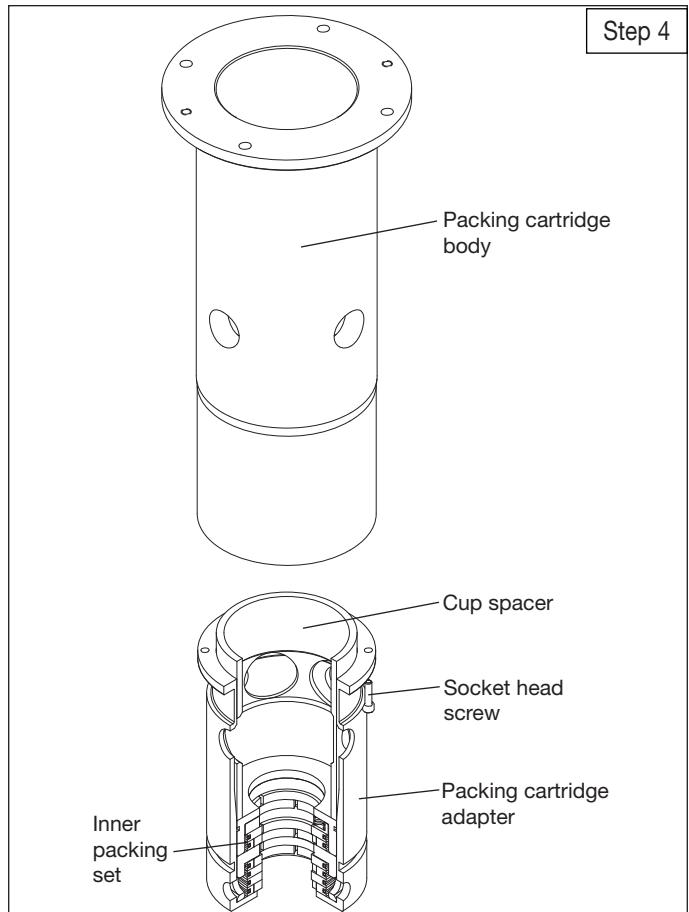

Figure 5.6F : Packing assembly
- e. Invert the packing cartridge adapter with the inner packing set in it, and remove Tool 4794-X. Slide the cup spacer into the packing cartridge adapter so that it engages the inner packing set. See figure 5.6F.